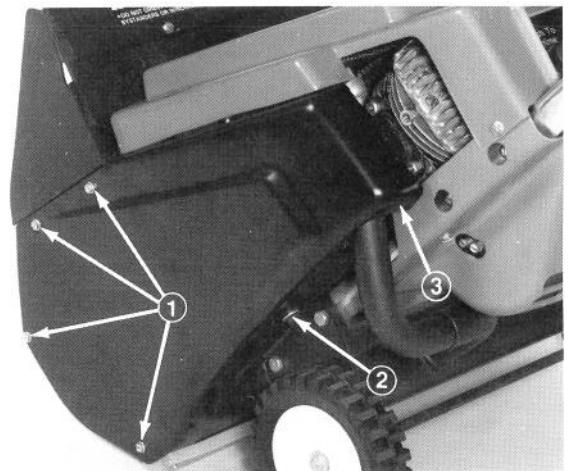

Figure 13
2. Remove washer faced capscrew, four screws, and locknuts holding drive cover in place (Fig. 13). Remove cover and set it aside.
7. Install drive cover with washer face capscrew, four screws, and locknuts (Fig. 13).